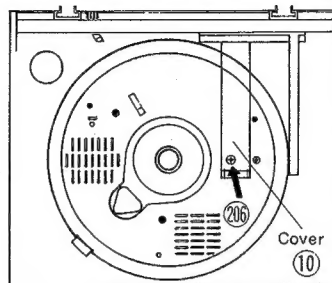

Figure 3
- 1-5. Remove the screw (206) which mounts the Cover (10) to the Case top (1).
- 1-6. Remove the Cover (10) from the case top by drawing it (Fig. 3).